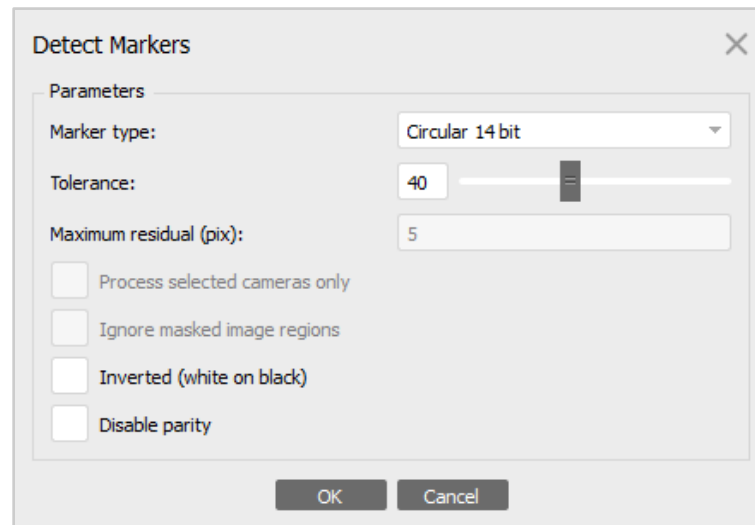

Figure 13. Detect Markers window with settings for marker detection as described in step 2.
2. A new window `Detect Markers` will appear. Change the settings as shown in Figure 13, and click `OK`. Since the coded targets are directly from Agisoft, Metashape will then begin detecting markers and preparing the photos for the next step.